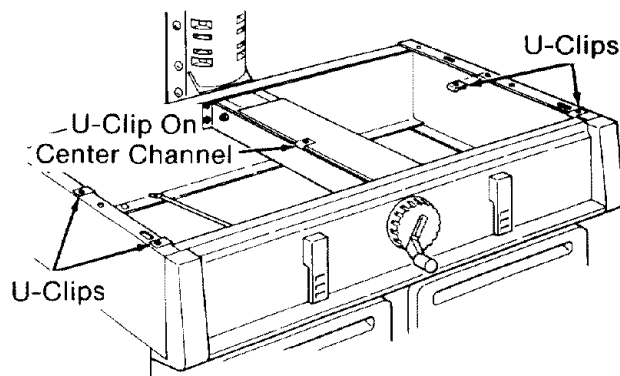

Fig. 80
2. Slide four *U-clips* over the holes in the saw as shown. (Figure 80)
3. Slide one *U-clip* over the hole in the left side of the center channel as shown. (Figure 80)